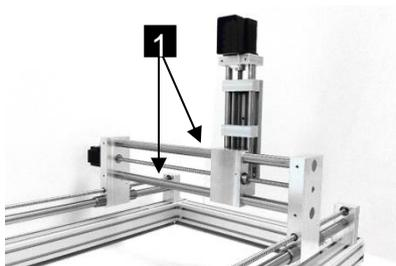

Figure 28: Linear guide the Y-axis
- 5 Grease the linear guides of the X-axis (Fig. 28/1) well using low-friction grease soaked cloth DIN 61650 or alternatively apply the grease with a suitable brush.